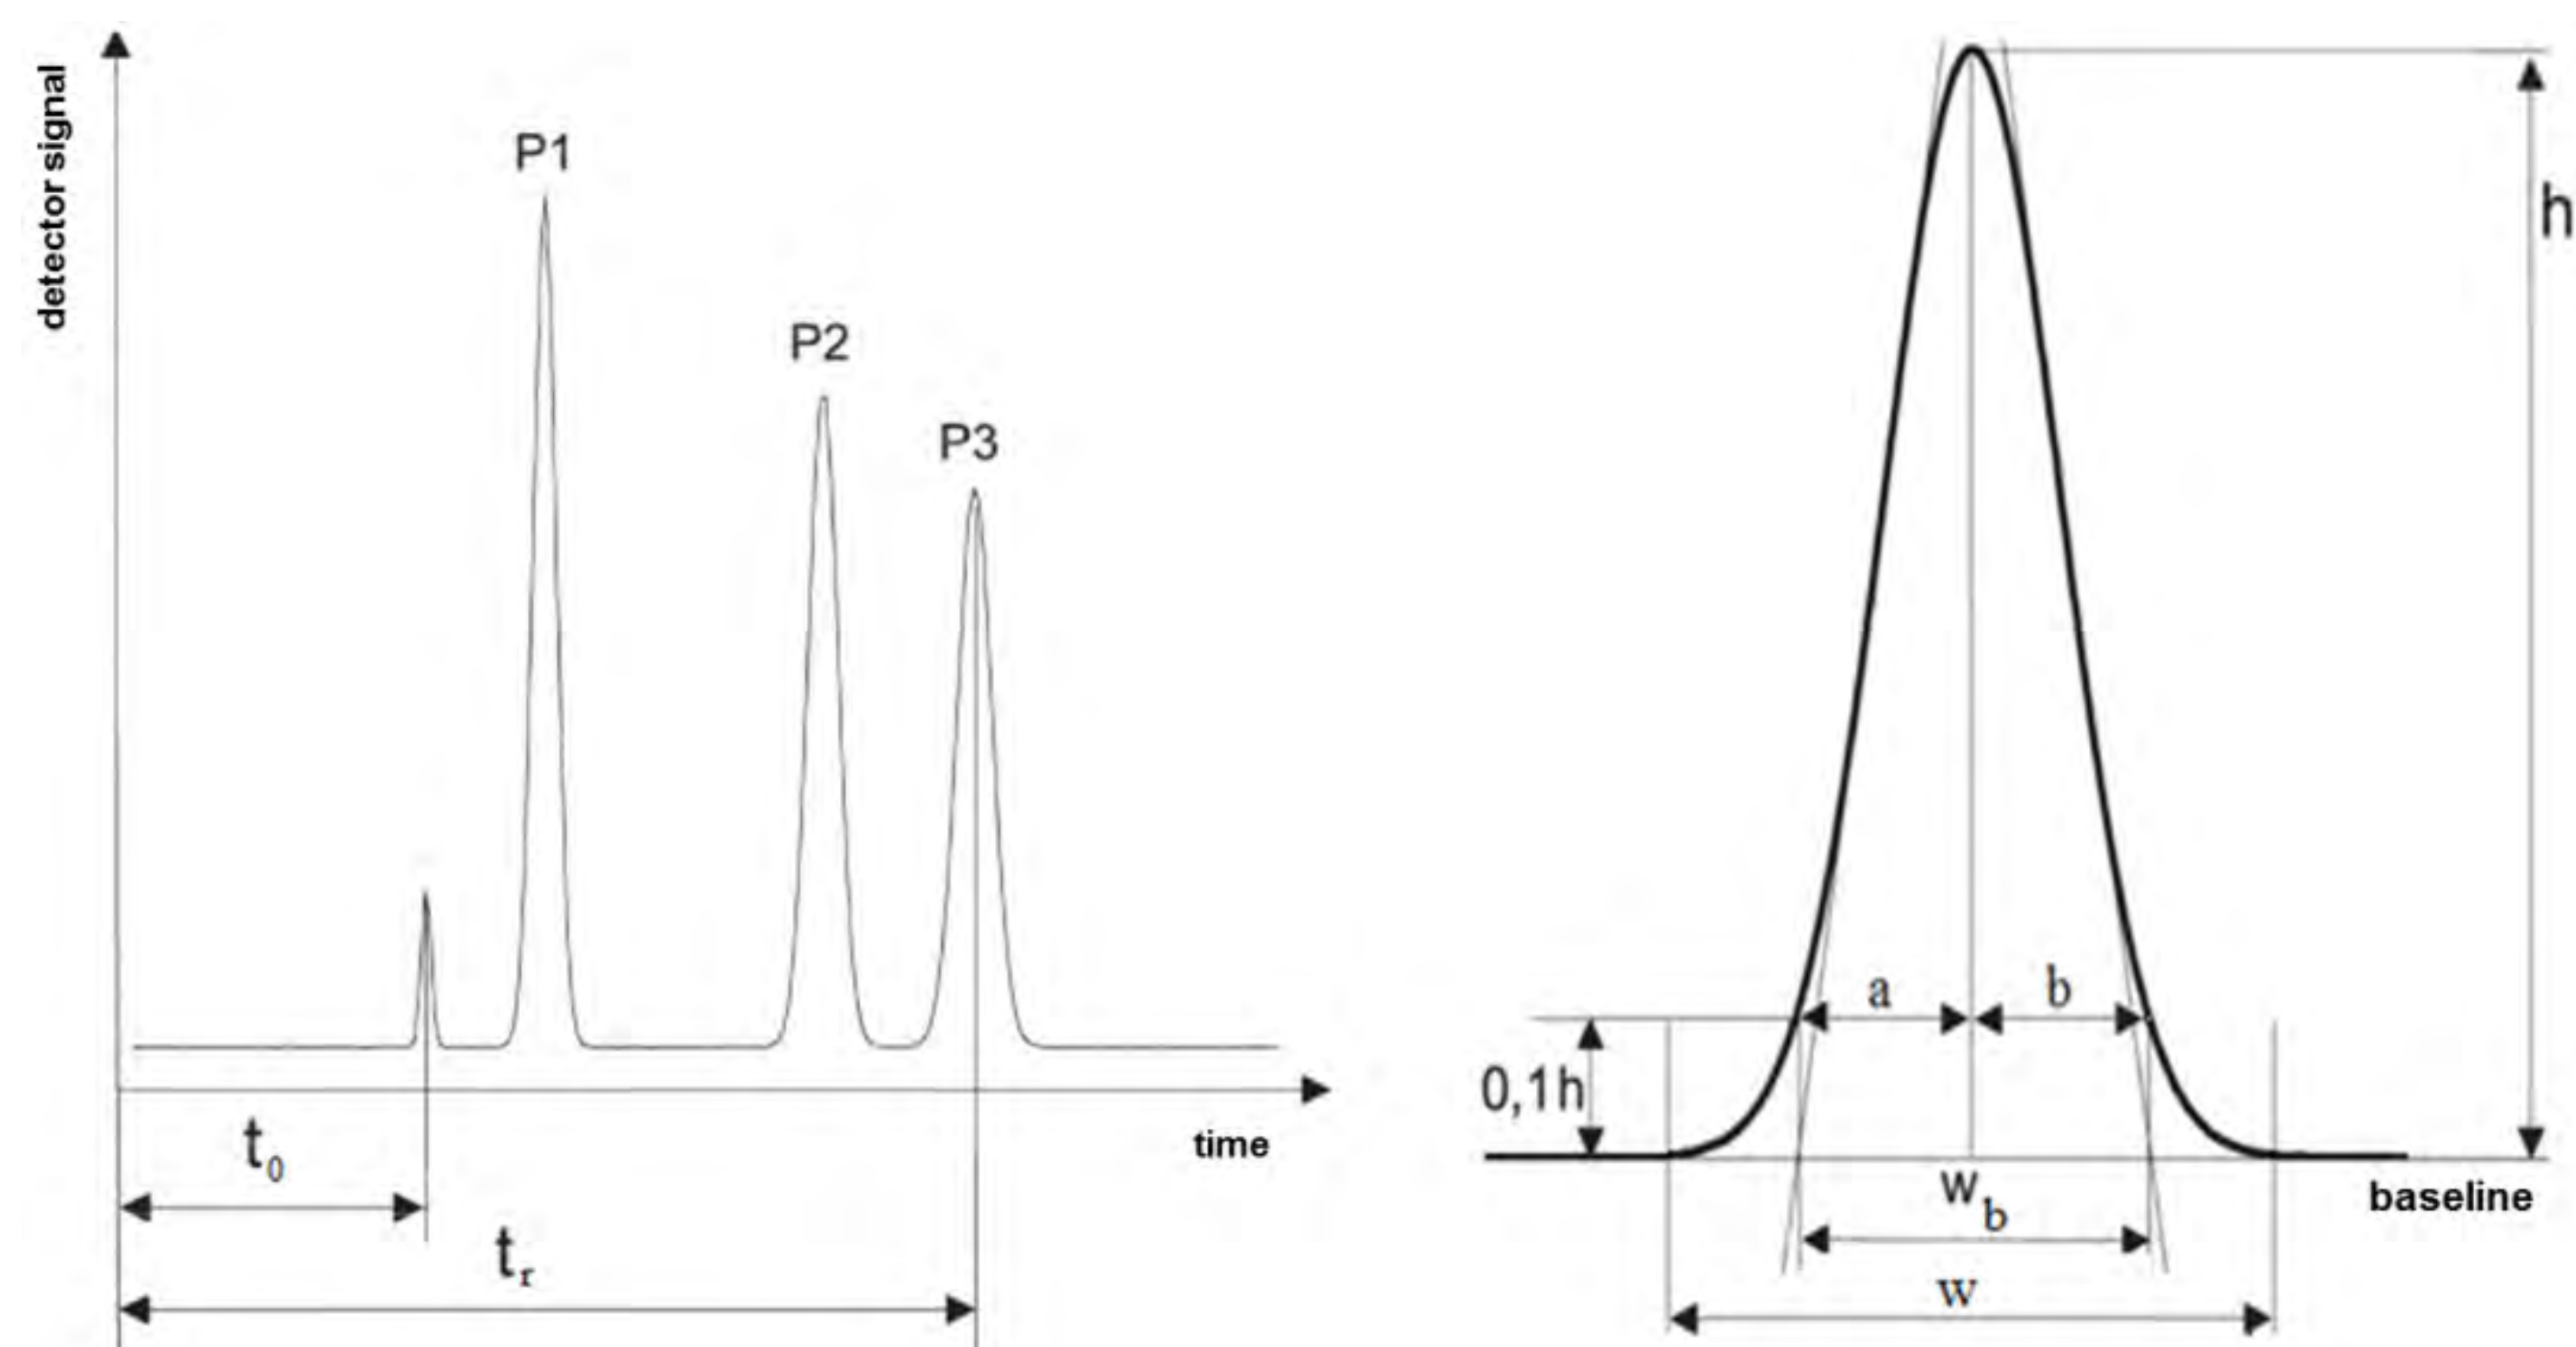

Fig. 5 Schematic illustration of a chromatogram [3]
Chromatographic parameters	The separated analytes which are transported by the mobile phase are recorded as signal peaks by the detector unit. The total amount of all peaks is called chromatogram. Each individual peak provides qualitative and quantitative information of the analyte. Qualitative information is given by the peak itself (e.g.: shape, intensity of the signal, time of appearance in the chromatogram). In addition, the area of a peak is proportional to the concentration of the substance. Hence, the chromatography data management software can calculate the concentration of the sample by integration. This provides quantitative information. Ideally the peaks are recorded as a Gaussian bell-shaped curve. A schematic example is illustrated in Fig. 5. The basic parameters of a chromatographic separation are discussed below.
Tailing factor (T)	<p>In practice, perfectly symmetric peaks are very rare. In a chromatogram they often show some degree of tailing. Peak tailing is measured by the tailing factor T. This factor describes the peak asymmetry, i.e. to which extent the shape is approximated to the perfectly symmetric Gaussian curve. The tailing factor is measured as: T=b/a</p> <p>a represents the width of the front half of the peak, b is the width of the back half of the peak. The values are measured at 10 % of the peak height from the leading or trailing edge of the peak to a line dropped perpendicularly from the peak apex (see Fig. 5). [4]</p> <p>T = 1 represents a symmetrical peak. For T &gt; 1 the peak profile is named tailing. For T &lt; 1 the peak profile is named fronting.</p>